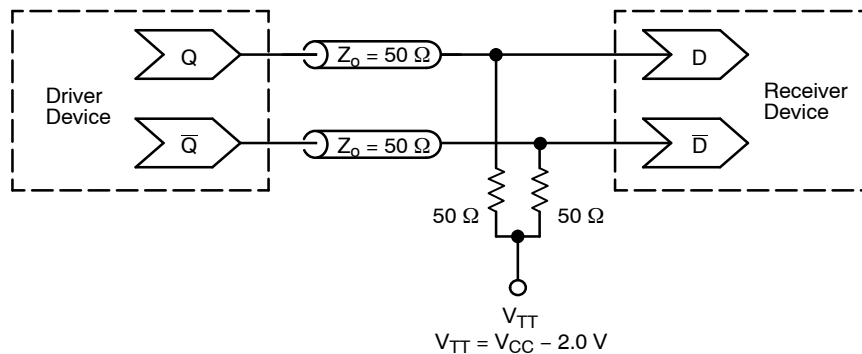

Figure 9. Typical Termination for Output Driver and Device Evaluation (See Application Note AND8020/D – Termination of ECL Logic Devices)
2. All loading with 50  $\Omega$  to  $V_{CC} - 2.0\text{ V}$  (see Figure 9).
2. All loading with  $50\ \Omega$  to  $V_{CC} - 2.0\text{ V}$  (see Figure 9).
1. Measured using a 750 mV source, 50% duty cycle clock source. All loading with  $50\ \Omega$  to  $V_{CC} - 2.0\text{ V}$  (see Figure 9).